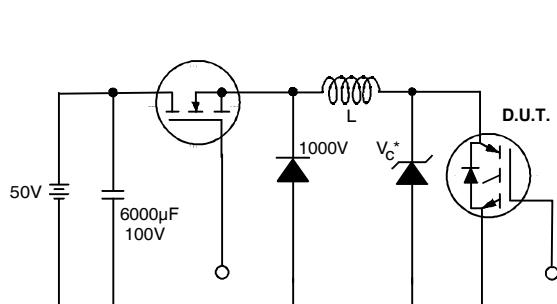

Figure 19. Clamped Inductive Load Test Circuit
- ②  $V_{CC}=80\% (V_{CES})$ ,  $V_{GE}=20V$ ,  $L=10\mu H$ ,  $R_G = 50\Omega$  (figure 19)
- ③ Pulse width  $\leq 80\mu s$ ; duty factor  $\leq 0.1\%$ .
- ④ Pulse width  $5.0\mu s$ , single shot.